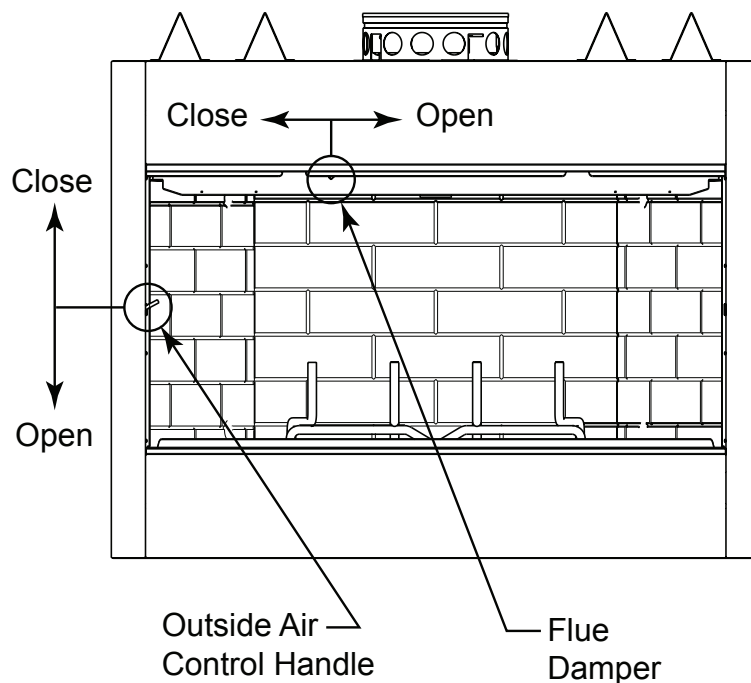

Figure 3.2 General Operating Parts
Refer to Figure 3.2 for location and operation of control.
- Refer to Figure 3.2 for location of control